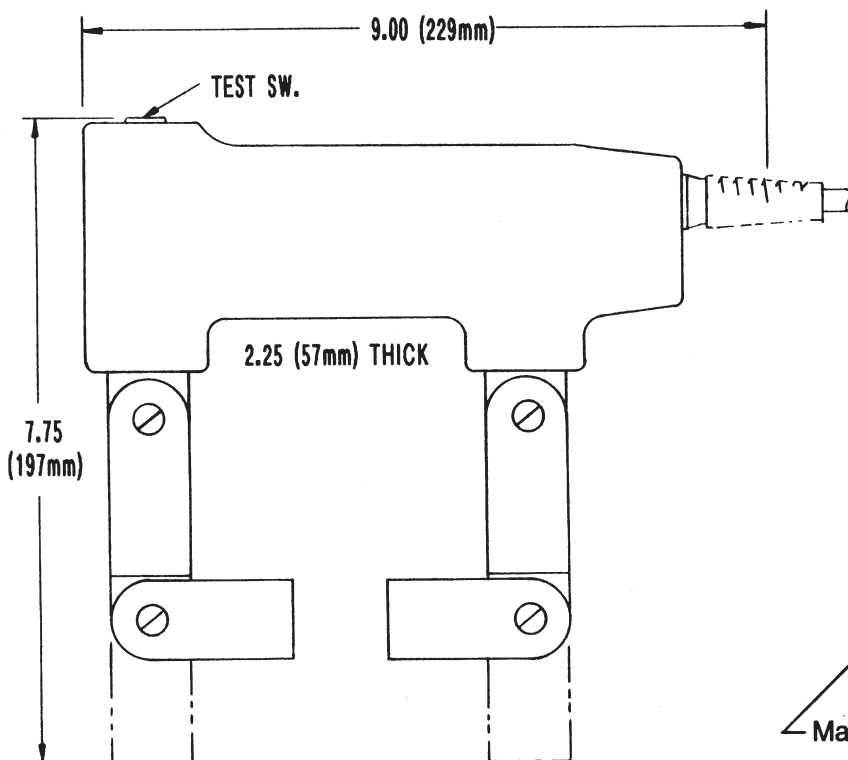

FIG. 1
**OPERATION:** Plug the Contour Probe into a Grounded power source. Place the Probe legs upon the work surface with the suspected defect at right angles to the legs. Push the test switch and lightly dust or float inspection powder over the area being inspected. Defect indications will be revealed in a direction shown on figure 1. Turn the Probe 90 degrees from the first test and repeat the procedure. Test switch should be released after powder application. However, if excess powder is to be lightly blown away, as is the procedure to reveal minute indications, the Probe should remain energized while this procedure is performed.